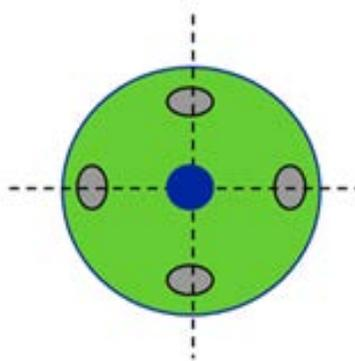

Figure 2-1: Radial Loading
- For applications where the weight is evenly distributed across all cells at the same time (e.g. tank filling, hopper scales), radial symmetry monitoring should be used (Figure 2-1).